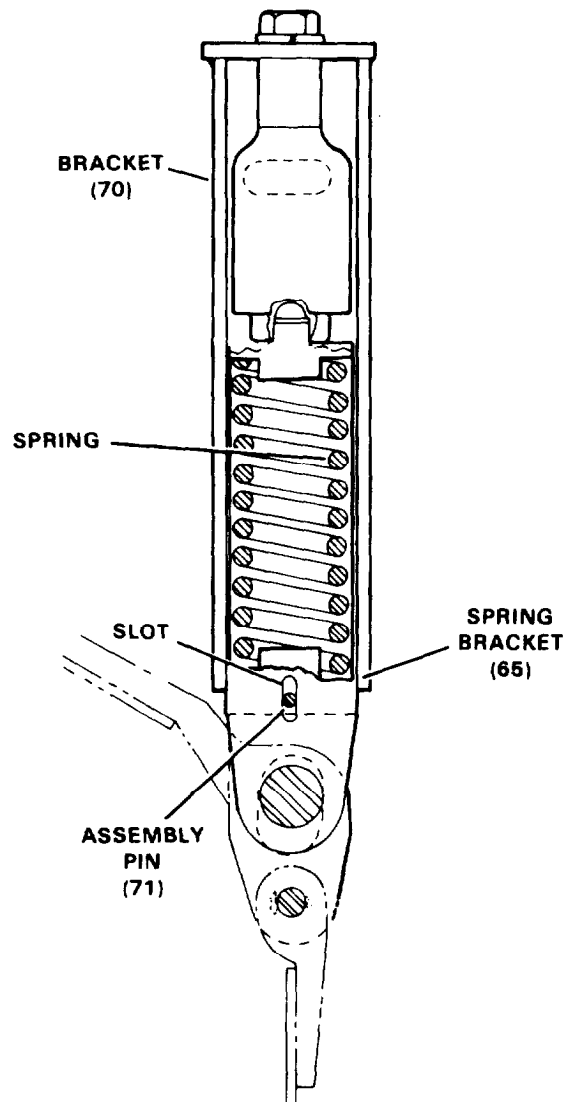

Figure 8F-1. Spring Bracket Assembly (2100N404)
With the boom hoist control lever in the neutral position, no hydraulic pressure is applied to the pawl cylinder and only the boom hoist pawl is engaged in the ratchet of the boom hoist drum (see Figure 8F-3). When the boom hoist control lever is moved by the operator to raise the boom, no hydraulic pressure is applied to the pawl cylinder and the boom hoist pawl remains engaged in the ratchet of the boom hoist drum. When the boom hoist control lever is moved by the operator to lower the boom, hydraulic pressure is applied to the pawl cylinder extending the piston and moving the linkage to disengage the boom hoist pawl from the ratchet of the boom hoist drum. Simultaneously the boom hoist planetary pawl will be engaged in the ratchet of the planetary spider.
**REMOVAL.** If upon inspection it is revealed that a pawl is worn down, cracked or broken it will be necessary to remove the pawl and replace it. To remove the boom hoist pawls, proceed as follows (see Figure 8F-2):
2. Shut down the engine and move the boom hoist lever forward to release the boom hoist brake. With the brake released, slide pin (71) through the slot in bracket (65) and on through the drilled hole in bracket (70) as shown in Figure 8F-1. This will lock the brake in the released position
DISASSEMBLY. To disassemble the pawl operating mechanism and to remove the pawl cylinder, proceed as follows (see Figure 8F-2):
INSPECTION AND REPAIR. Prior to assembly, the following items should be inspected (see Figure 8F-2):
ASSEMBLY. To assemble the boom hoist pawls and operating mechanism, proceed as follows (see Figure 8F-2):